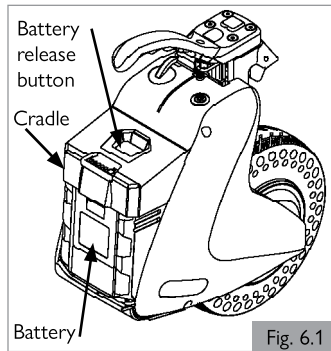

Fig. 6.1
6.1 Battery Introduction (Fig. 6.1)
- Disconnect the battery by pressing the battery release button and pulling it out of the cradle. (Fig. 6.1)